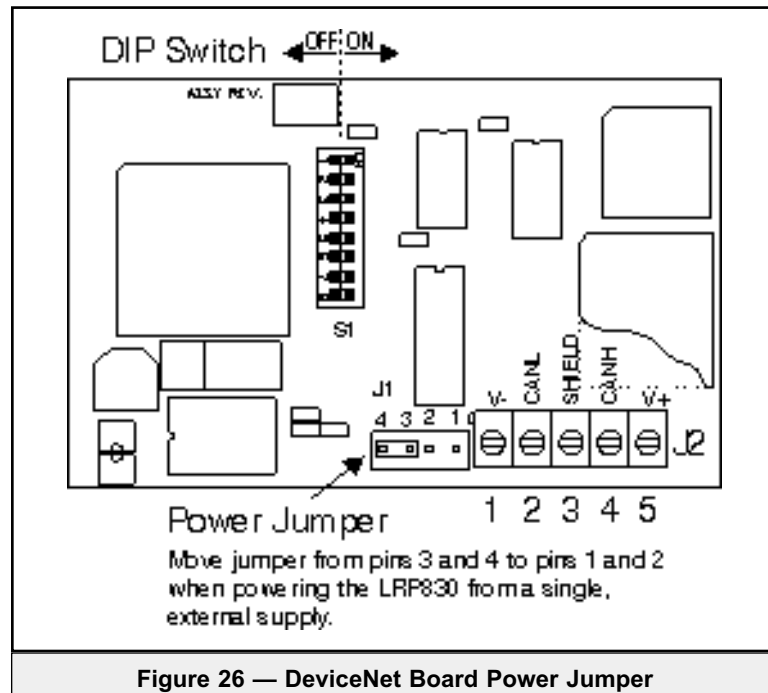

Figure 26 — DeviceNet Board Power Jumper
4. Referring to Figure 26, locate jumper J1 and move the shunt from pins 4 and 3 to pins 2 and 1.